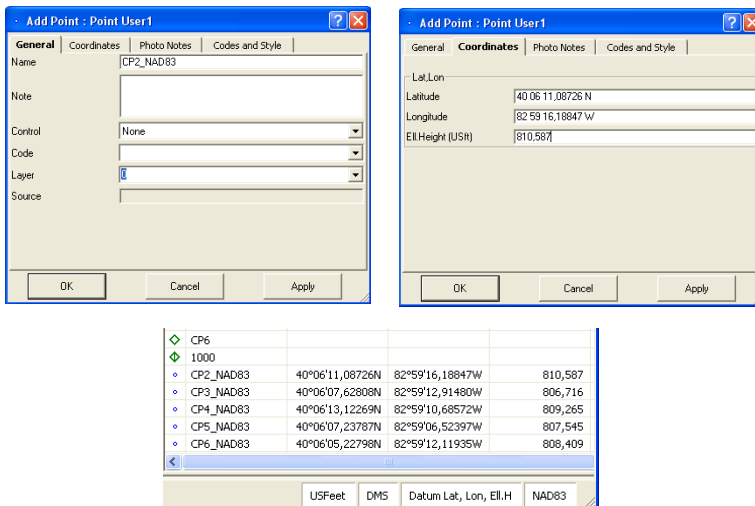

Figure B-8. Add Point Dialog Box - General and Coordinates Tabs
2. Enter a point's *Name* (with the extension, *\_NAD83*) and *Coordinates* in the NAD83 for all five points (Figure B-8). Click **OK**.